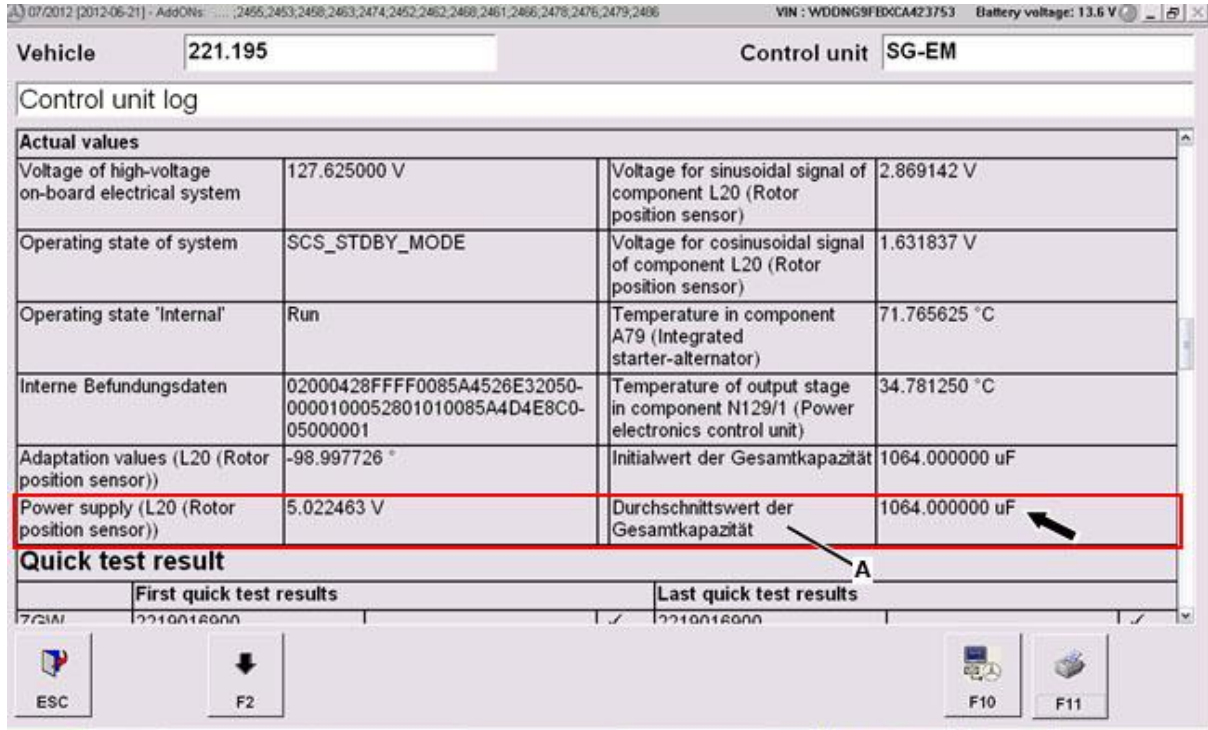

Figure 1
To do so, in electric motor control unit under "Current values" read off the value "Average value of total capacity" (arrow, Figure 1 [in screen display] and see also Figure 2 – field no. 088 [in control unit log print out]).
- The text in SDS is written partially in German (A, Figure 1) in the screen print below: